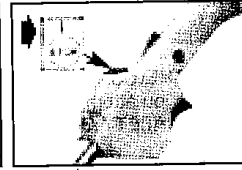

Fig. 4B
1. Move the tumbler switch to "RUN" (see Fig. 4B).